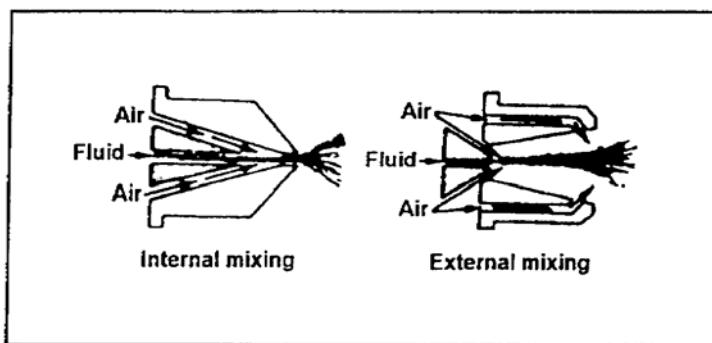

Figure 3-37. Nozzles of internal- and external-mixing spray guns
a. Internal Mixing. This spray gun mixes paint and air inside the gun and spray cap. It is shown on the left side of Figure 3-37. The cap requires less air pressure than the external-mixing spray gun. The cap is popular on small spray guns. The main fault of the internal mixing feature is the tendency for fast-drying materials, which are atomized inside the cap, to collect inside and around the outlet. Pressure fed-spray guns are usually of the internal mixing type.
b. External Mixing. This spray gun mixes the paint and air outside the gun and spray can. It is shown on the right side of Figure 3-37.